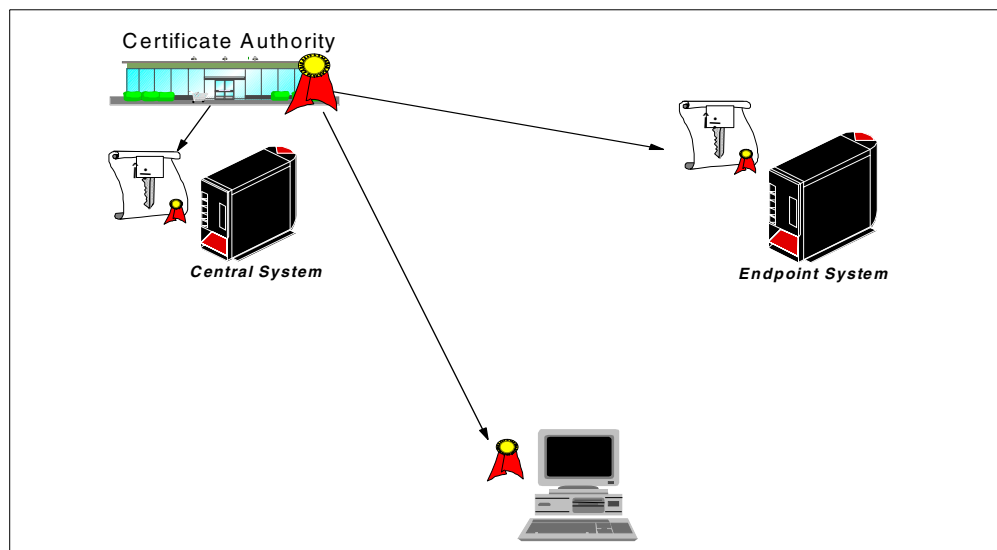

Figure 156. Server authentication
Provides Certificate Authority (CA) authentication of the endpoint system server certificate. When the central system (SSL client) attempts to establish a connection with the endpoint system (SSL server), the central system authenticates the endpoint system server certificate for CA authenticity as shown in Figure 156. For this level, if you want to add a new AS/400 system to your management group as an endpoint system, you need to get the server certificate of the system from the CA. Because an AS/400 system can pose as a central system to your endpoint systems and collect their information as far as it has the server certificate from the same certificate authority, we do not recommend using this level for the Internet connection.